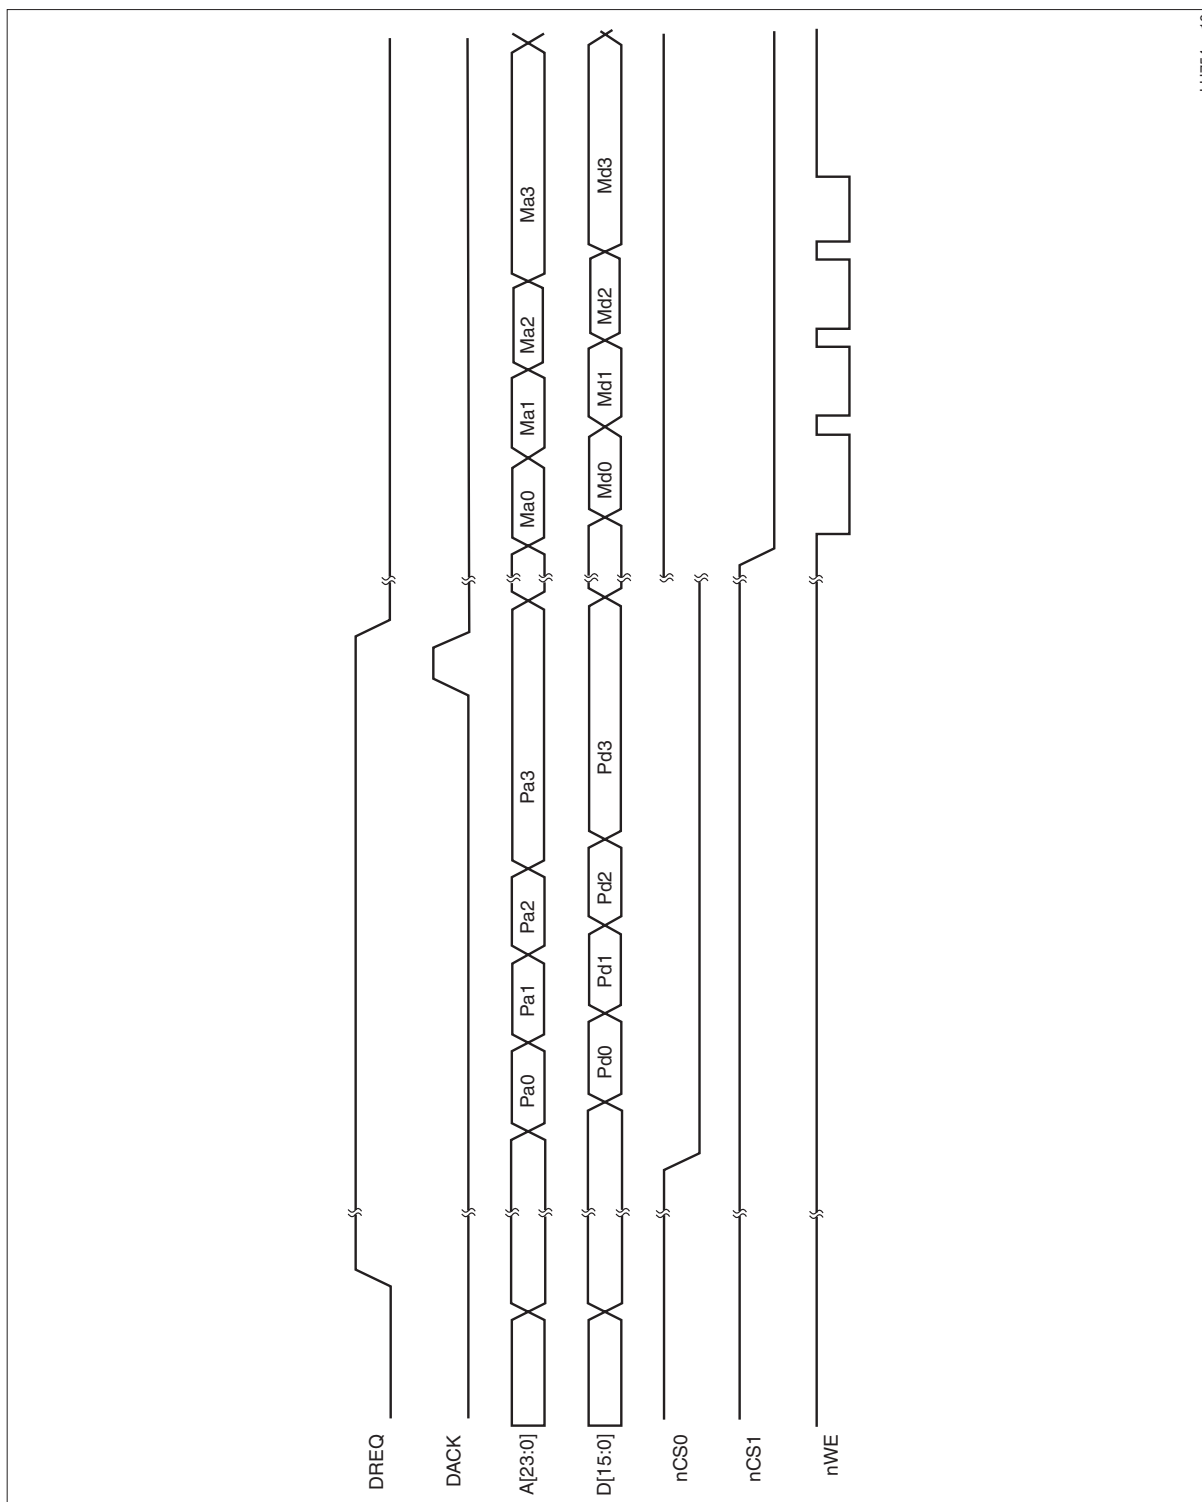
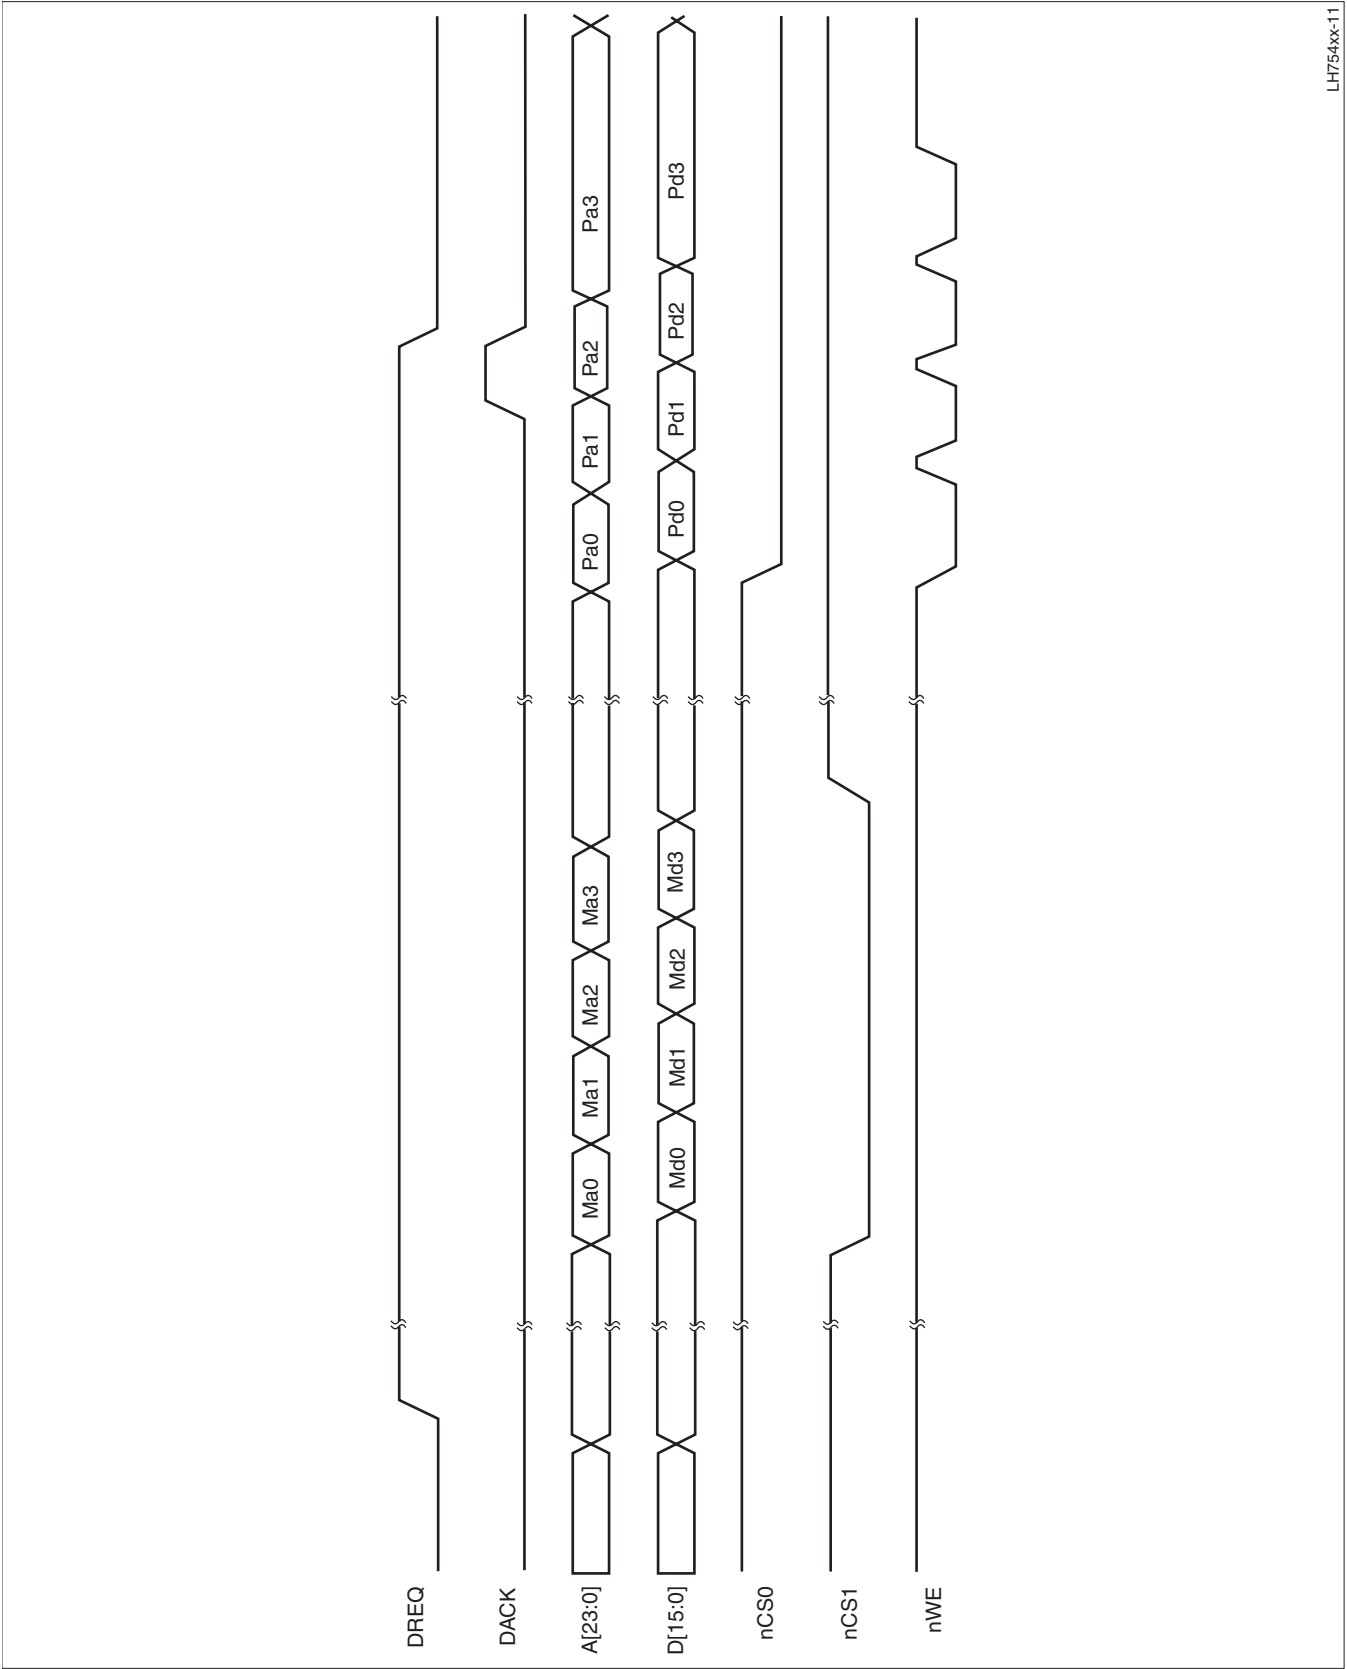

Figure 13. Peripheral-to-Memory Data-Transfer Timing
Figure 14. Memory-to-Peripheral Data-Transfer Timing
Figure 13 and Figure 14 show examples of DMA timing diagrams.
- Figure 13 shows the timing for a peripheral-to-memory data transfer, where
- Figure 14 shows the timing for a memory-to-peripheral data transfer, where